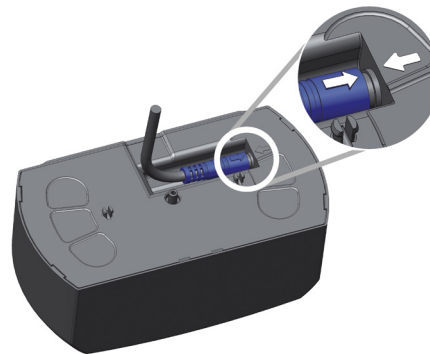

Figure 12: Cable plug alignment
5. Plug the connection cable into the connection cable socket on the back of the sensor with the two arrows facing each other → Figure 12.